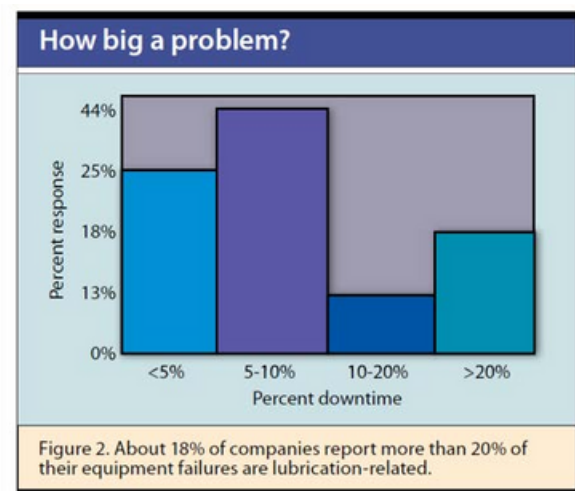

Figure 2
2. What percentage of your equipment downtime is related to lubrication? More than 18% of companies report that more than 20% of their equipment failures are directly related to lubrication problems (Figure 2). The first step in solving a problem is knowing you have a problem, and the next step is knowing how large the problem is.